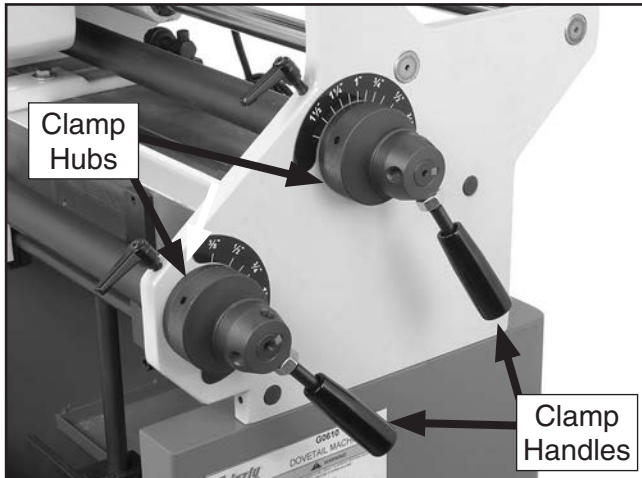

Figure 9. Clamping handles installed.
1. Install the clamping handles in the clamp hubs (Figure 9).